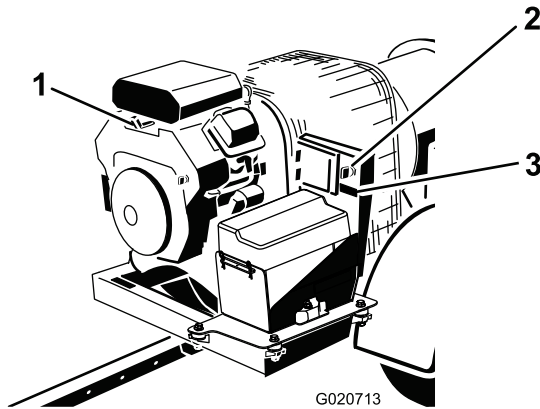

Figure 11
3. Rotate the engine ignition key to the “START” position and quickly release it to the “ON” position (Figure 11). This wakes up the receiver .
4. If leaving the machine, rotate the key to the OFF position and remove it from the engine (Figure 11).